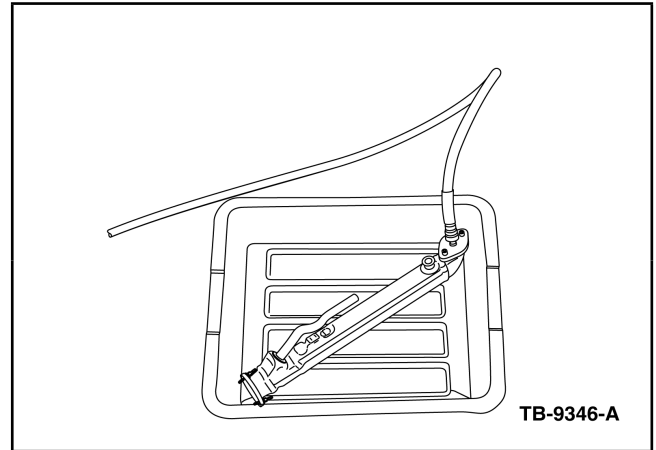

Figure 3 - Article 09-8-3
- c. Submerge the EGR cooler horizontally in the water, with the coolant ports pointing upward. Manipulate the cooler under water to purge all trapped air from the internal coolant passages. (Figure 3)
- (3) Submerge the EGR cooler horizontally in the water, with the coolant ports pointing upward. Manipulate the cooler under water to purge all trapped air from the internal coolant passages. Inspect for continuous bubbles escaping from the coolant ports. (Figure 3)